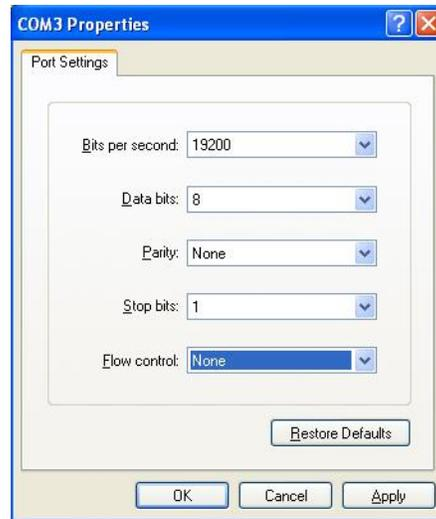

Figure 1-3 · COM3 Properties
- Flow Control: None (Figure 1-3).